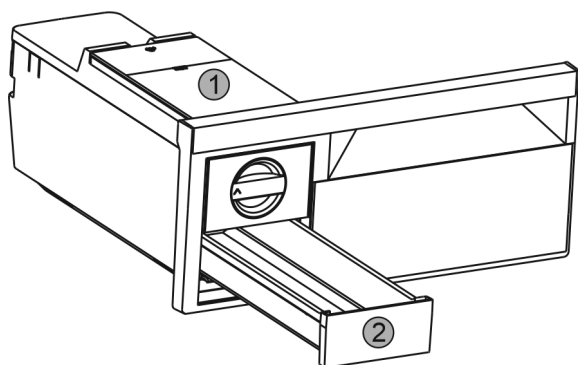

Fig. 54
- Take out the water tank Fig. 54 (1) and ice cube drawer Fig. 54 (2).